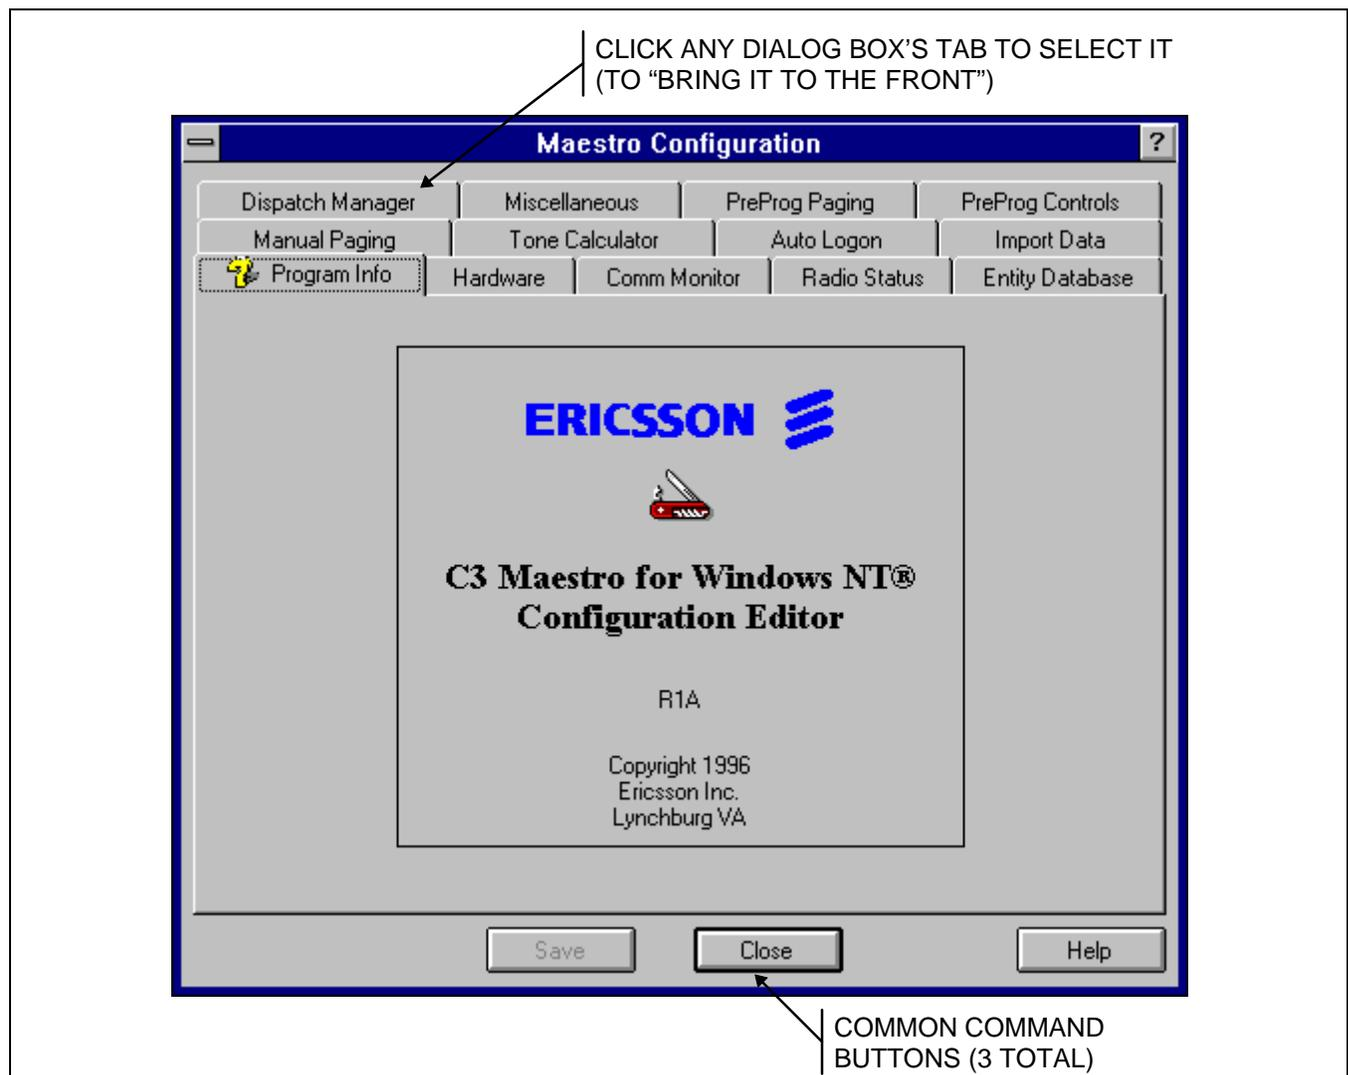

Figure 6-4 — Configuration Editor's Program Info Dialog Box
The Configuration Editor is comprised of many overlapping tab-type dialog boxes. See Figure 6-4 through Figure 6-19. Each individual dialog box allows direct user-friendly INI or DAT file changes for particular settings grouped or categorized by the dialog box. The tab at the top of each dialog box allows the user to quickly “bring it to the front” (activate/select the dialog box) of the program’s window via a simple mouse click on the tab; therefore, a tree-type menu is not required for dialog box selection. The various dialog boxes are:
- **Program Info**—This read-only dialog box indicates the program’s copyright date, version number, etc. See Figure 6-4.
Three (3) command buttons are located at the bottom of the Configuration Editor's window. These buttons are common to all of the program's dialog boxes and they are always displayed when the program is running. If a command button's function is not currently valid, it grays-out to indicate this. For example, as shown in Figure 6-4, the <Save> command button is grayed-out since the program was just started and no configuration changes have occurred.